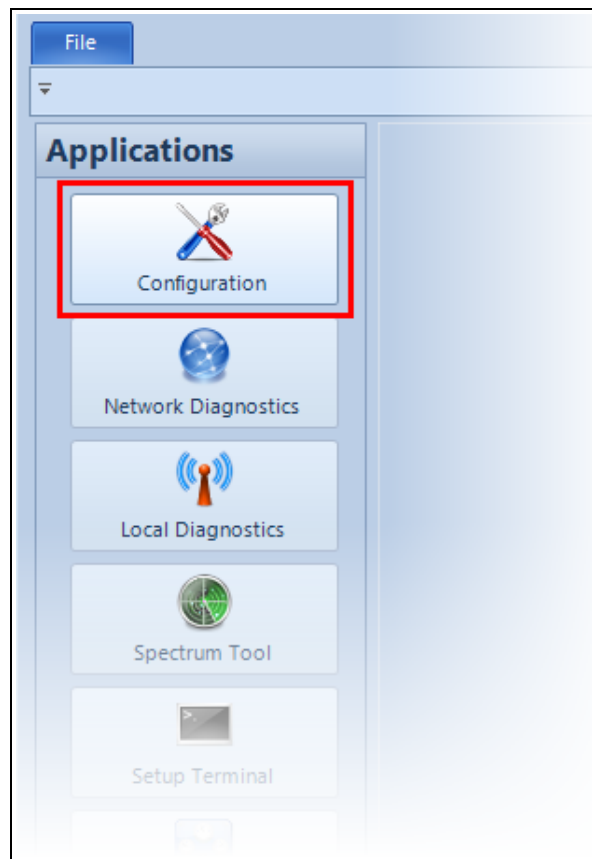

Figure 10: Configuration button
2. In Tool Suite, click **Configuration** in the **Applications** pane. (Figure 10)